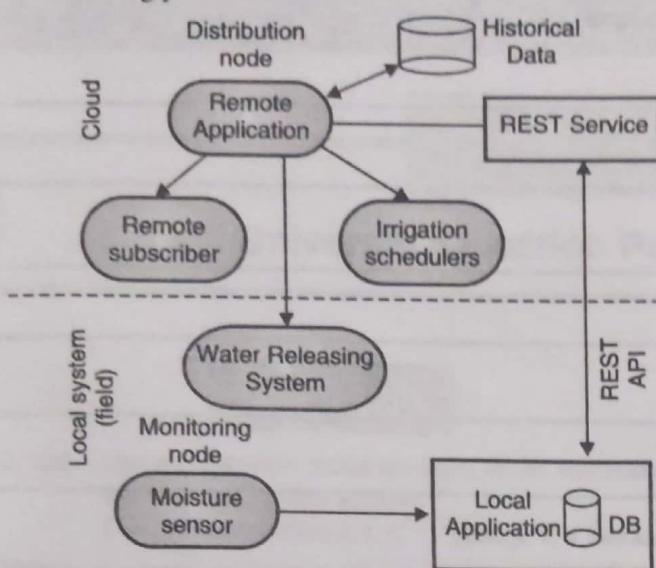

Fig. 6.11.2 : Deployment diagram for smart irrigation system
- The possible deployment diagram of the of the smart irrigation system is shown in Fig. 6.11.2.